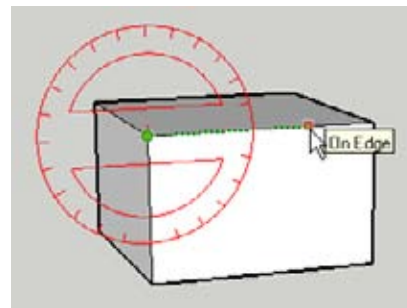

Figure 10-26
1. Position the protractor in the correct orientation, and click two points to set the baseline for the angle (Figure 10-26).